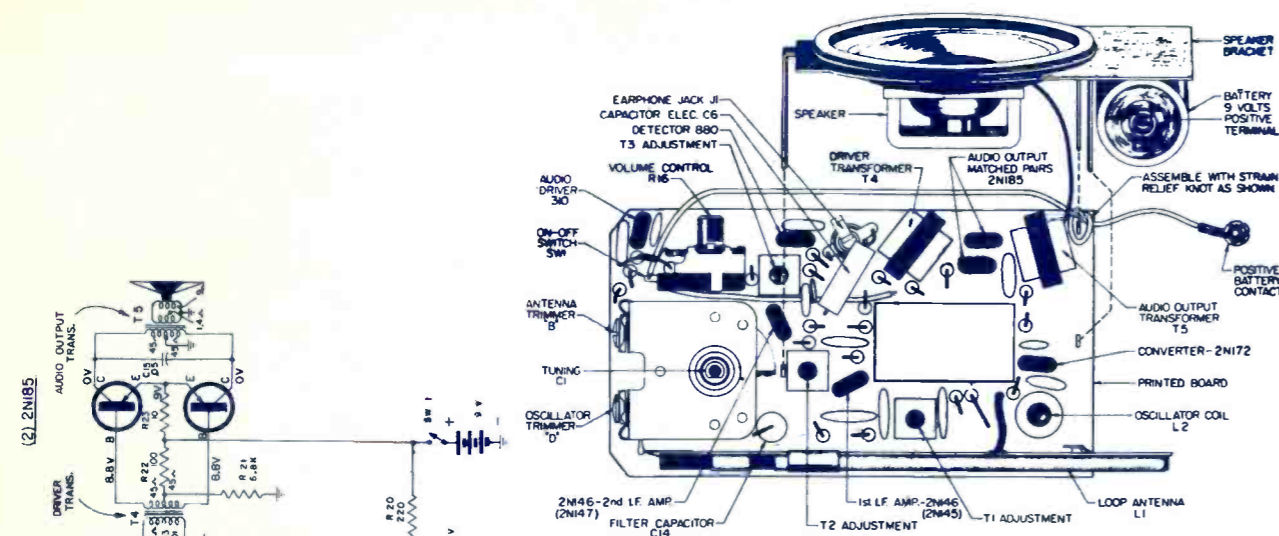

Figure 3 - Top View Parts Layout with Speaker Raised from Board
*It is recommended that a fiber aligning tool that snugly fits the slot in the powdered iron core be used to prevent chipping of the slot. (See Fig. 3)